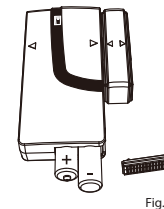

Fig. 1
- Remove the battery cover; insert 2 new batteries noting the polarity as shown in Fig.1 and replace cover. (Requires 2 x AAA batteries)